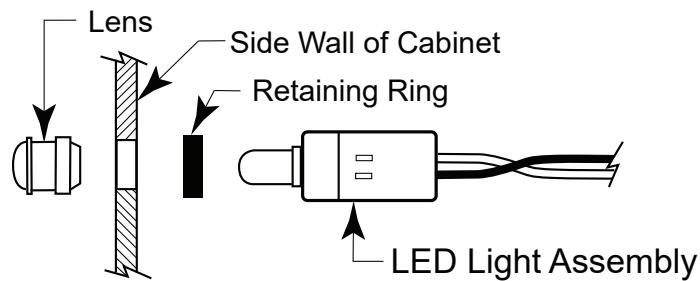

FIGURE 1
2. Insert clear lens through visible, side wall of the cabinet (**See Figure 1**).